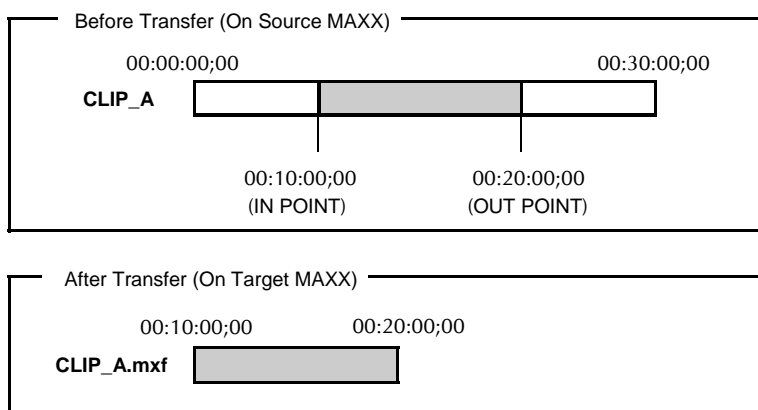

Figure 29 – Result of an MXF file transfer
- To maintain the identity of the transferred clip, the time code references for its Mark-In/Out points are maintained, as shown in **Figure 29**.